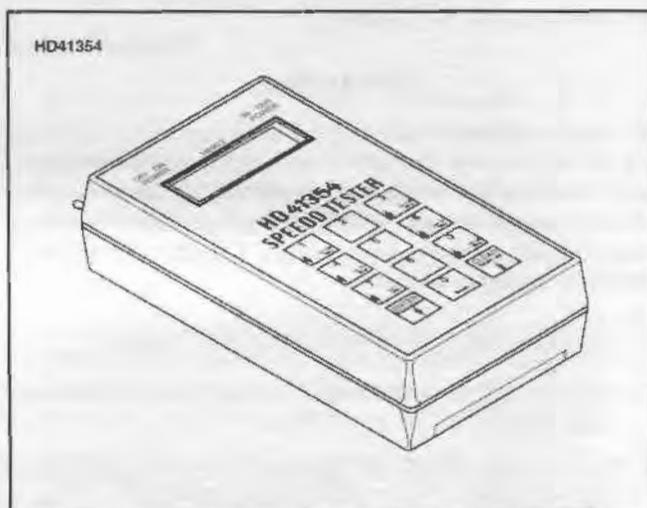

Figure 8-54. Speedometer Tester
- a. A good ground (1 Ohm or less) at the BK wire in the 3-place connector (See Figure 8-54).
6. If butterfly valve does not remain open in step 3, check that the black lead at the 3-place mating connector has a good ground. See Figure 8-54.
8. Using a voltmeter, verify that the W/BK wire at the 3-place mating connector (see Figure 8-54) has 12 VDC when the ignition/Light Key Switch is turned to IGNITION.
10. If solenoid is functioning properly, but butterfly valve is not opening and closing as it should, refer to item 1.3 in the following table (TROUBLEHOOTING SOLENOID-OPERATED BUTTERFLY VALVE).